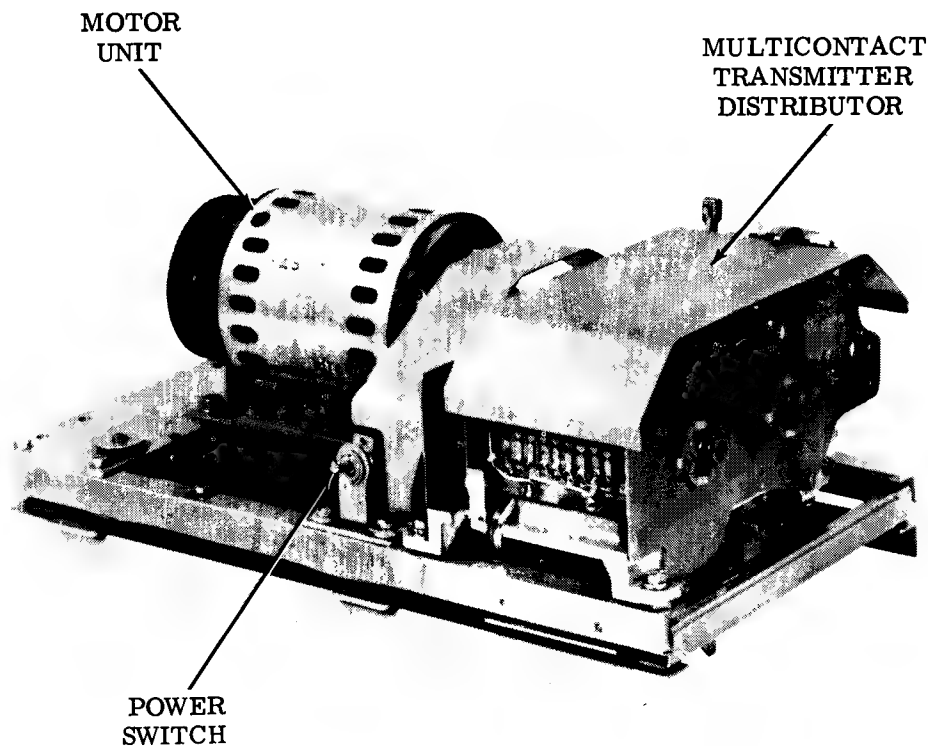
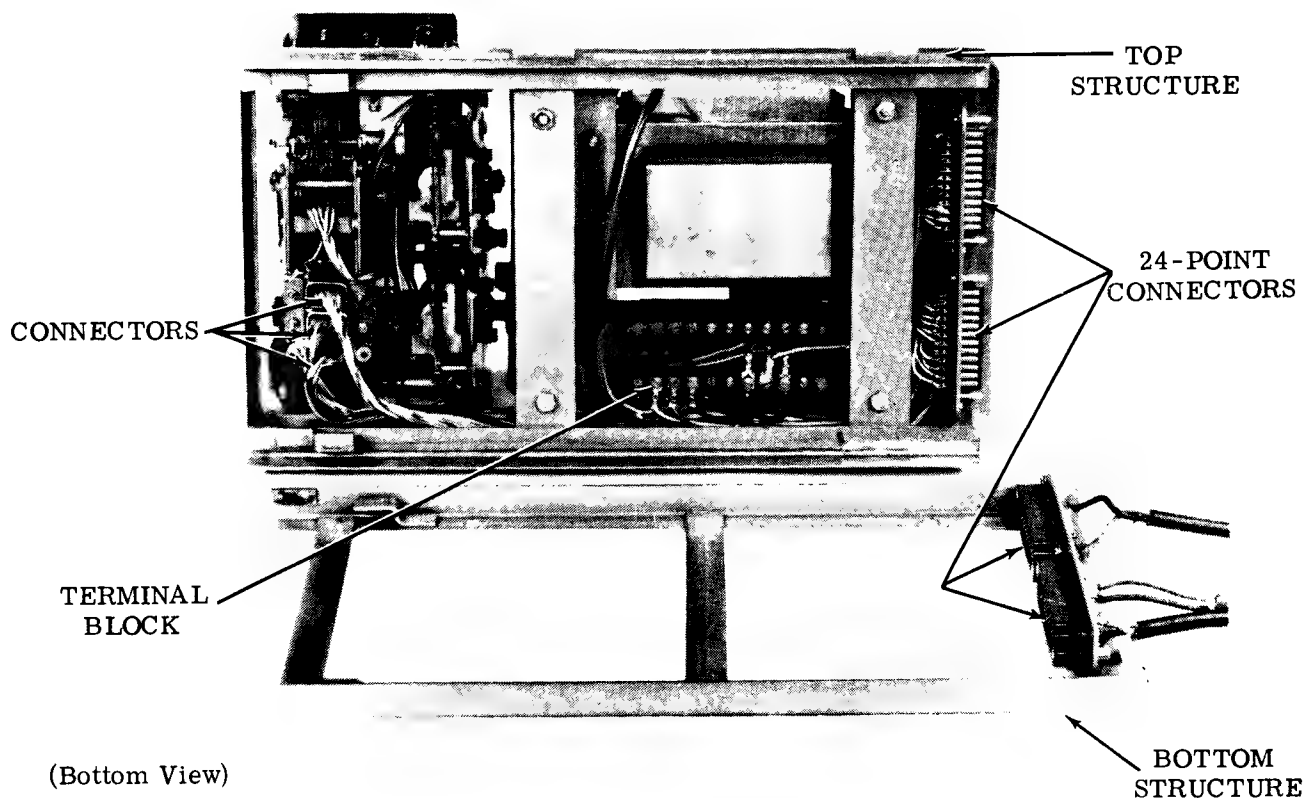

Figure 3 - Multicontact Single Mounting Transmitter Distributor Base
Figure 4 - Multicontact Single Mounting Transmitter Distributor Base
2.09 This multicontact transmitter distributor base is similar to the base previously described. The frame structure is built in two pieces. The top structure serves as a mounting for a motor unit and the transmitter distributor (Figure 3). The bottom structure serves as a mounting for the top structure. Two 24-point connectors are mounted at the rear of the bottom structure for electrical connection to external apparatus. Two 24-point mating connectors are mounted to the rear of the top structure as a terminal for internal electrical connections. The top structure may be moved forward to disconnect all electrical connections or backward to connect them (Figure 4).